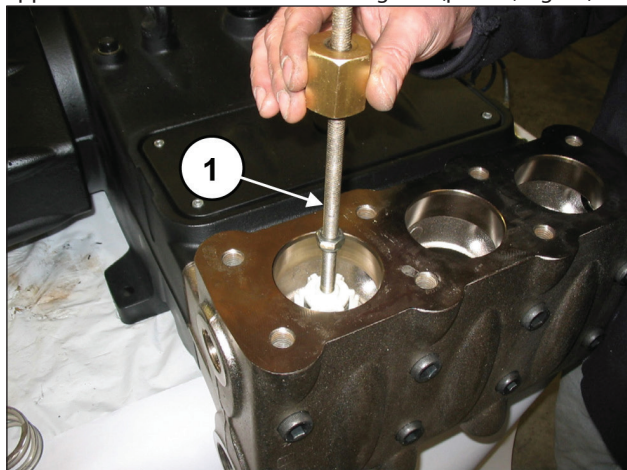

Fig. 92
Extract the outlet valve unit with an extractor hammer to be applied on the M10 hole of the valve guide (pos. ①, Fig. 92).